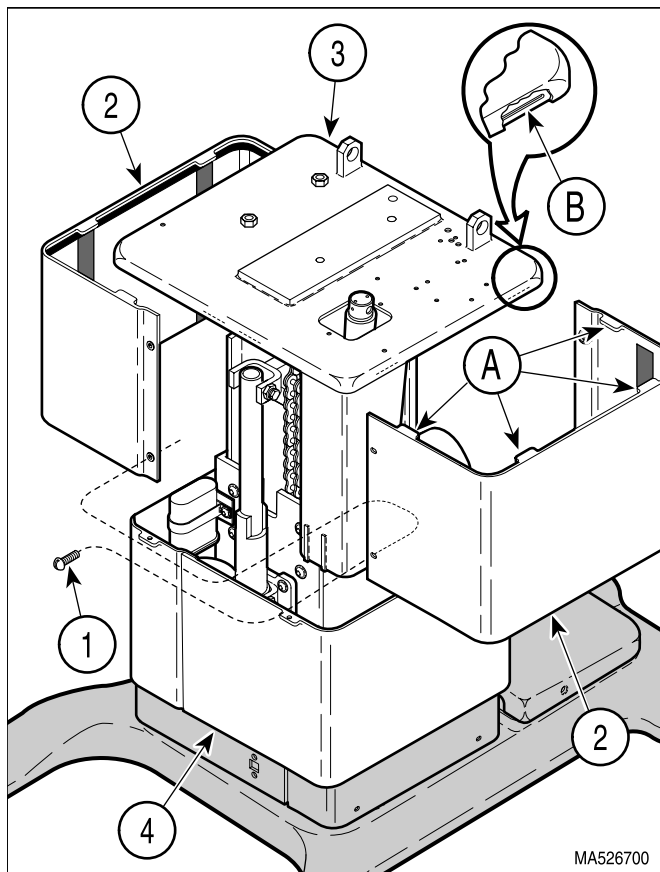
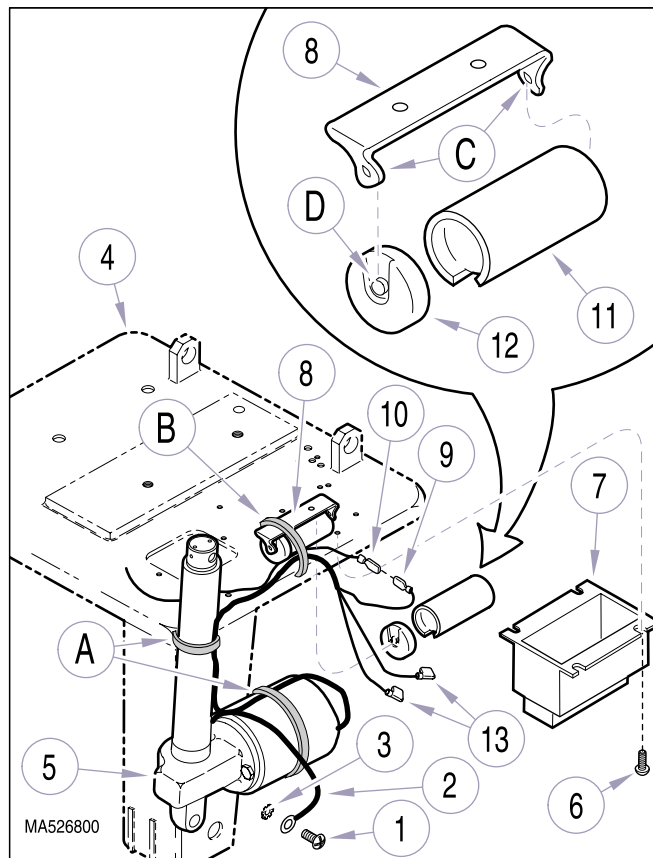

Figure 4-5. Shrouds Removal / Installation
Figure 4-6. Tilt Actuator Wires Disconnection / Connection
- (2) Unplug table power cord from outlet receptacle.
- (3) Remove four screws (1, Figure 4-5) and R.H. and L.H. outer shrouds (2) from column adapter weldment (3).
- (4) Lower middle outer shroud assembly (4) down out of way.
- (5) Remove screw (1, Figure 4-6), ground wire (2), and lockwasher (3) from column adapter weldment (4).
- (6) Cut two cable ties (A) securing actuator cable to tilt actuator assembly (5).
- (7) Remove two screws (6) and connection cover (7) from column adapter weldment (4).
- (8) Cut cable tie (B) securing wire harnesses to capacitor mounting bracket (8).
- (3) Connect two wires (13, Figure 4-6) to terminals of tilt capacitor (11).
- (4) Install cap (12) on tilt capacitor (11).
- (5) Position bottom of tilt capacitor (11) on capacitor mounting bracket (8) and then push the top of the capacitor inward. Using a screwdriver, force the tab (C) of the capacitor mounting bracket down over the catch (D) of the cap (12). Make sure tilt capacitor is held firmly in place.
- (6) Connect actuator wire (9) to wire (10).
- (7) Secure bundle of wire harnesses to capacitor mounting bracket (8) with cable tie (B).
- (8) Install connection cover (7) on column adapter weldment (4) and secure with two screws (6).
- (9) Secure actuator cable to tilt actuator (5) with two cable ties (A).
- (10) Install lockwasher (3), and ground wire (2) on column adapter weldment (4) and secure with screw (1).
- (15) Lower TILT DOWN function all the way down (until tilt actuator can be heard free wheeling).
- (16) **Observe.** Seat weldment (5) should be parallel with top of column weldment adapter (4). If seat weldment is parallel with top of column weldment adapter, go to step 21. If seat weldment is not parallel with top of column weldment adapter, go to step 17.
- (17) Extend TILT UP function 3 to 4 in. (7.6 to 10.2 cm).
- (18) Remove clevis pin (6) and block seat weldment (5) in this position.
- (19) Using spanner holes (B), screw adjustable clevis (10) in or out as determined necessary in step 16.
- (20) Repeat steps 16 thru 19 until seat weldment (5) is parallel with top of column adapter weldment (4) when tilt actuator (3) is free wheeling at the end of its down stroke.
- (21) Secure clevis pin (6) in place with two e-rings (7).
- (22) Install tabs (A, Figure 4-5) of R.H. and L.H. outer shrouds (2) in slots (B) of column adapter weldment (3) and secure with four screws (1), making sure middle outer shroud assembly (4) is captured by R.H. and L.H. outer shrouds (2).